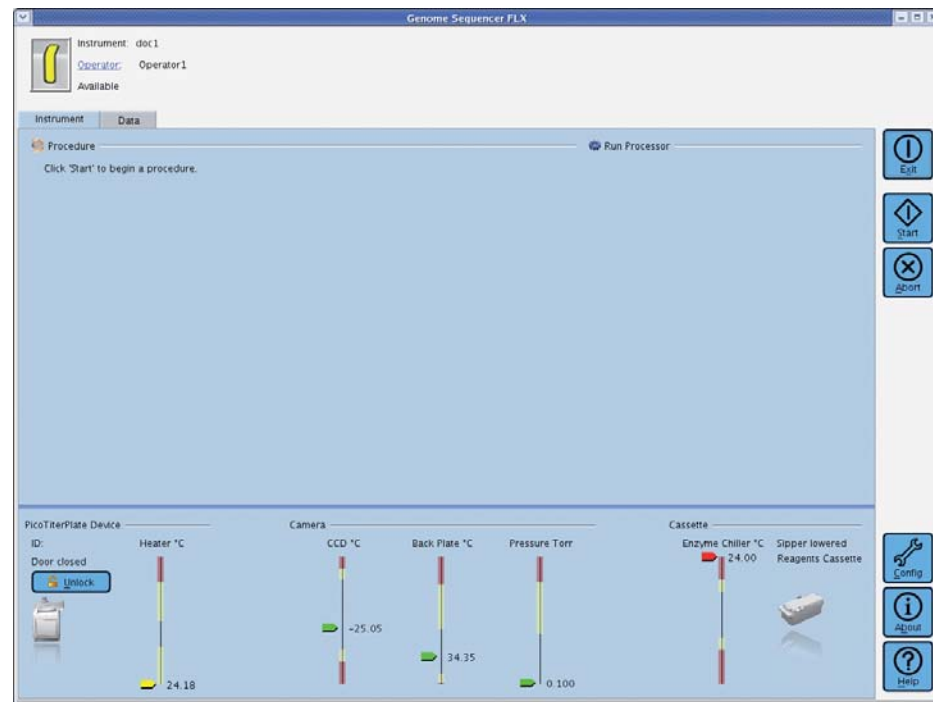

Figure 3: The GS Sequencer application window after an Operator logs in
- ▶ Login by selecting your user name and click “Sign In”. The main window of the GS Sequencer application will open (Figure 3).